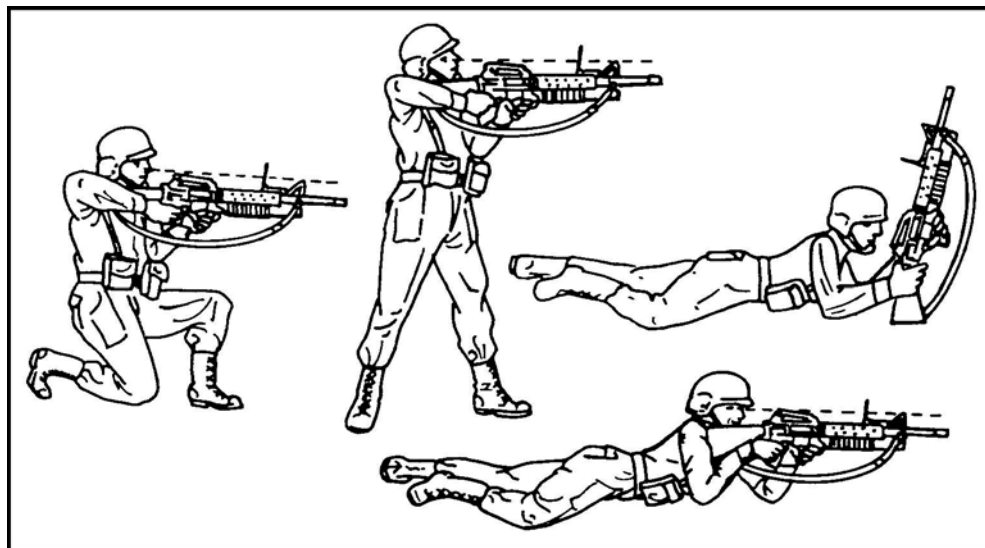

Figure 3. Firing positions.
- 7. Select and assume an appropriate firing position (Figure 3).